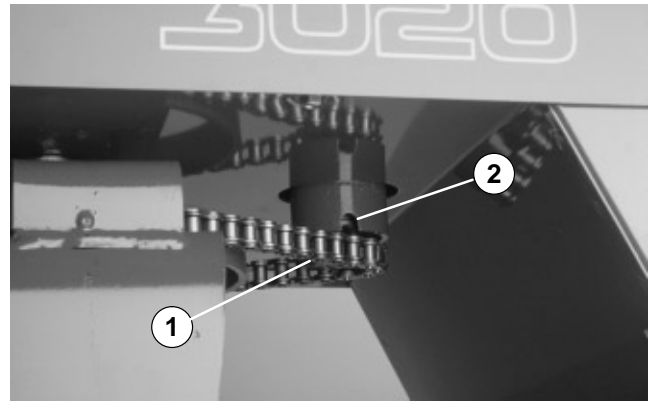

Figure 17
2. Remove drive-lock pin from the sprocket and lower steering shaft with drift punch (Fig. 17).
3. Secure sprocket to the lower steering shaft with **new** drive-lock pin (Fig. 17).
4. Remove drive–lock pin from the sprocket and lower steering shaft with drift punch (Fig. 17).